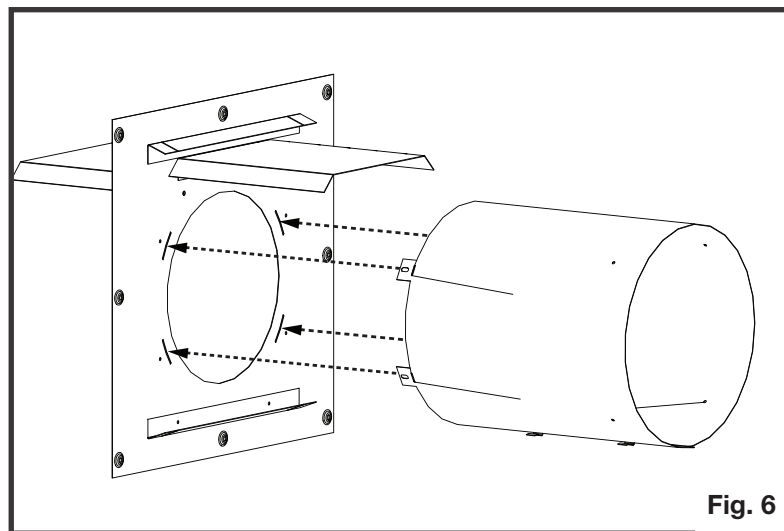

Fig. 6
6. Insert the vent sleeve tabs into the firestop spacer slots then bend the tabs over to secure to the firestop spacer along with 4 supplied fasteners (**Figure 6**).
6. Secure the vent shield with two fasteners (supplied) to the front upper frame (Figure 6).